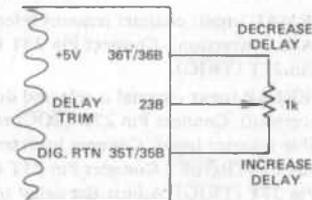

Figure 10. Delay Trim
The DLY OUT signal may be adjusted to vary the A/D converter triggering time by means of the external circuitry shown in Figure 10. An open DLY TRIM terminal (Pin 23B) results in a nominal delay time of 3.0 μs . A grounded DLY TRIM terminal (for highest-accuracy) results in 20 μs delay time nominal.
- (1) **NORMAL** (input channel remains selected during its A/D conversion). Connect Pin 23T (DLY OUT) to Pin 27T (TRIG).
- (2) **OVERLAP** (next channel is selected during A/D conversion). Connect Pin 27B (EOC) to TTL compatible inverter input. Connect inverter output to Pin 24T (STROBE). Connect Pin 23T (DLY OUT) to Pin 27T (TRIG). Adjust the delay to at least 4 μ s greater than EOC, 20 μ s max (see Figure 10). The signal on Pin 26T (TRIG) serves as RUN/STOP control.
- (3) **REPETITIVE SINGLE CHANNEL.** After selecting the input channel to be repetitively sampled (see MUX ADDRESS MODE, above), set Pin 27T (TRIG) to Logic "0". Connect Pin 26T (TRIG) to a triggering source. Conversion process is initiated by positive edge of TRIG command.